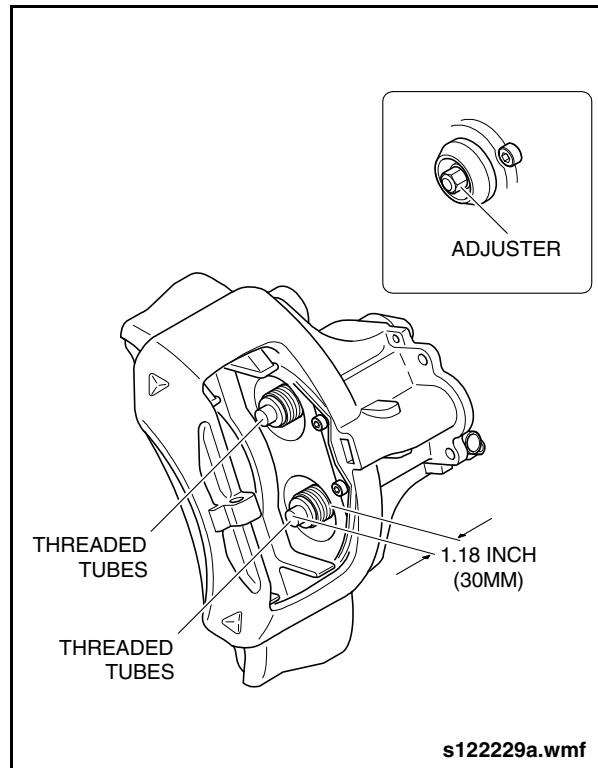

Fig. 2-135: Inspecting Threaded Tubes
1. Rotate the adjuster clockwise until the end of the threaded sleeve extends 1.18" (30 mm) from the caliper surface. See "Fig. 2-135: Inspecting Threaded Tubes" on page 116.